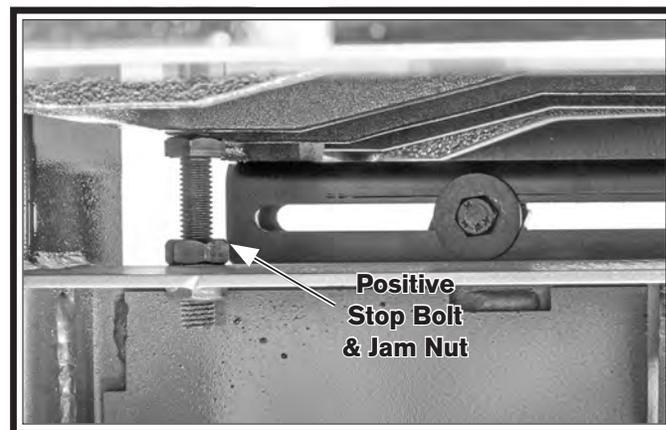

Figure 64. Positive stop bolt and jam nut.
4. Open both wheel covers, loosen positive stop jam nut shown in **Figure 64**, then lower positive stop bolt so it will not interfere with table tilt in the following steps.